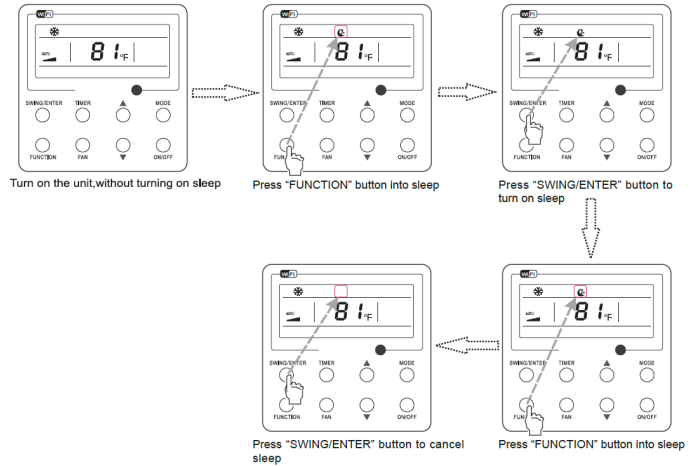

Fig. 11 Sleep Setting
- Sleep setting is shown as Fig.11.